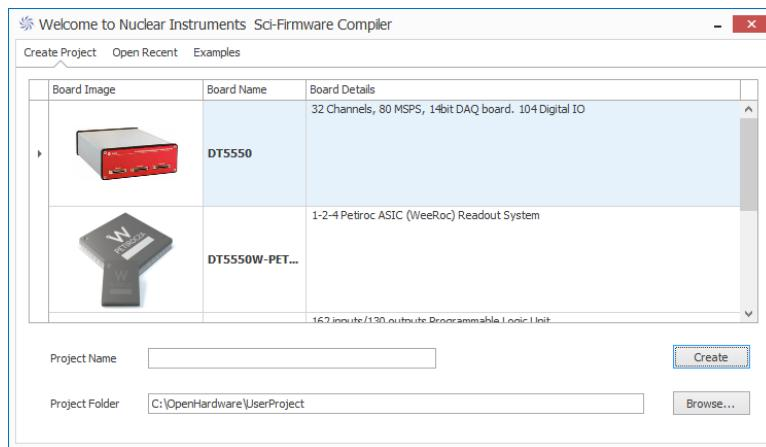

Figure 3.2: *New Project* window.
- "New": opens, when clicked, the *Starting Window* shown in **Figure 3.2** and allows to create a new project.